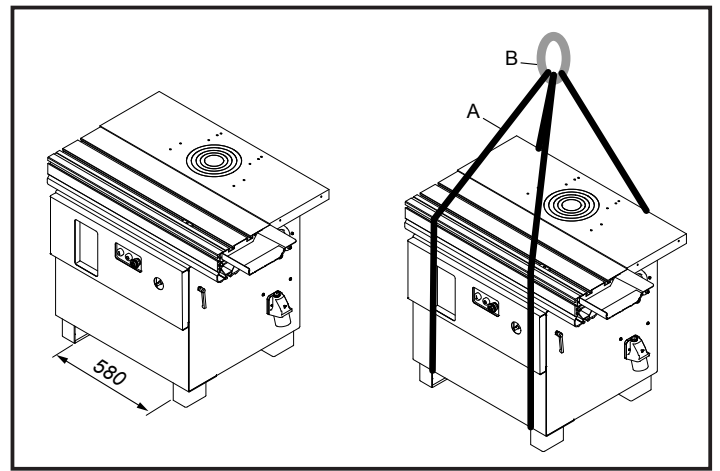

Fig.4.2
Lifting may be carried out by bridge crane or self-propelled lift truck. Before starting the maneuvers, free the machine of all the parts used for transport or Packaging that have remained on the machine. Check that the capacity of the lifting equipment is adequate for the gross weight of the machine indicated Fig.4.2.
- As Fig.4.2. Indicated: Insert forks into the bottom of the frame assembly ensuring that these are wedged against the back of the rear feet.
- lift the slings and position them as is shown in the Fig.4.2